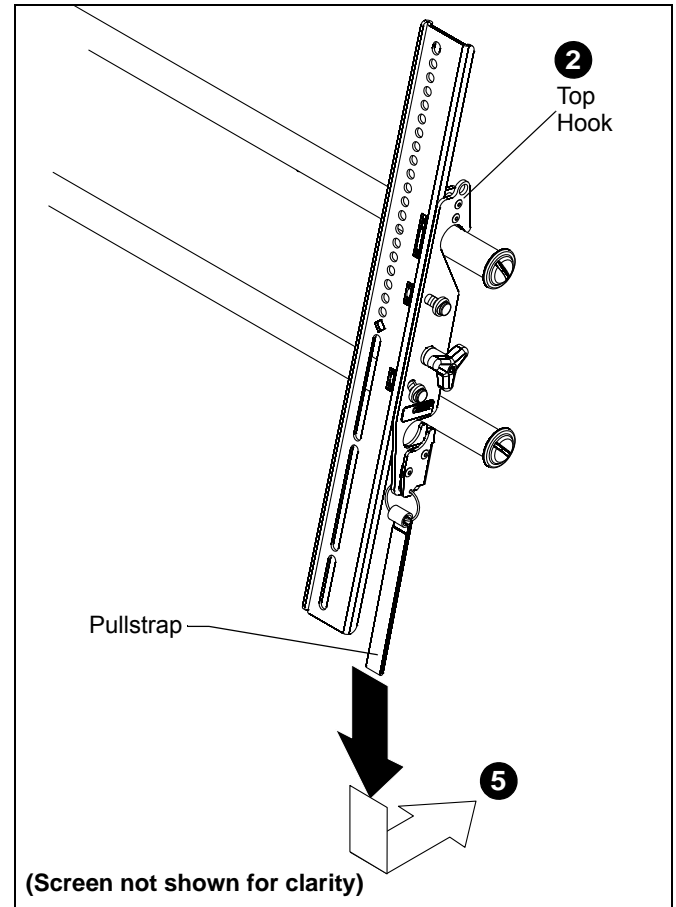

Figure 8
2. Hang top hook of interface brackets onto the top bar of the mount. (See Figure 8)
5. Pull downward on the pullstraps and swing inward toward wall, latching interface brackets to lower bar and locking bottom of screen to the mount. (See Figure 8)